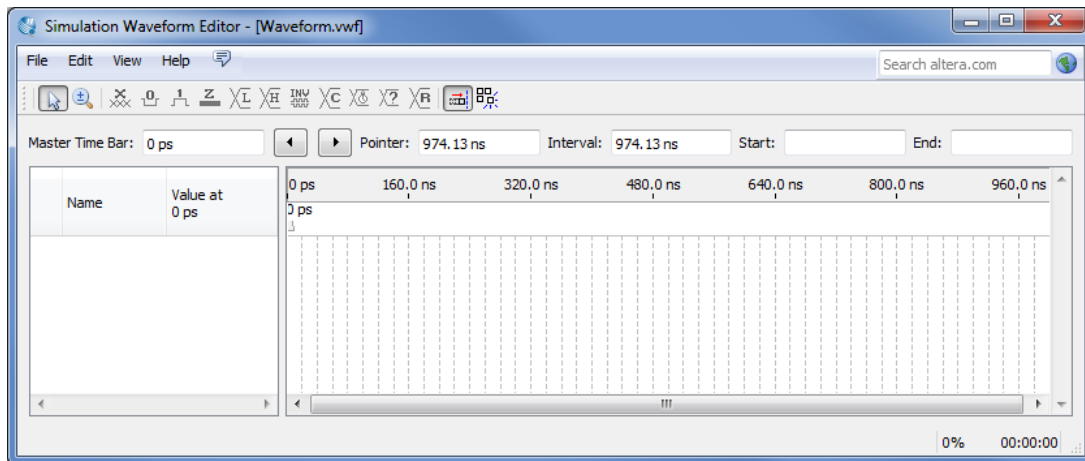
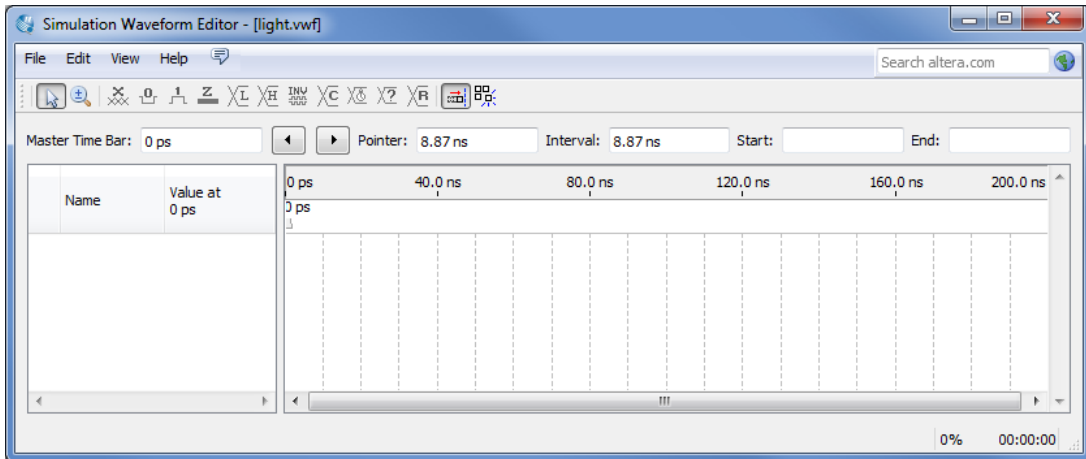

Figure 29. The Waveform Editor window.
Figure 30. The augmented Waveform Editor window.
- The Waveform Editor window is depicted in Figure 29. Save the file under the name *light.vwf*; note that this changes the name in the displayed window. Set the desired simulation to run from 0 to 200 ns by selecting Edit > Set End Time and entering 200 ns in the dialog box that pops up. Selecting View > Fit in Window displays the entire simulation range of 0 to 200 ns in the window, as shown in Figure 30. You may wish to resize the window to its maximum size.